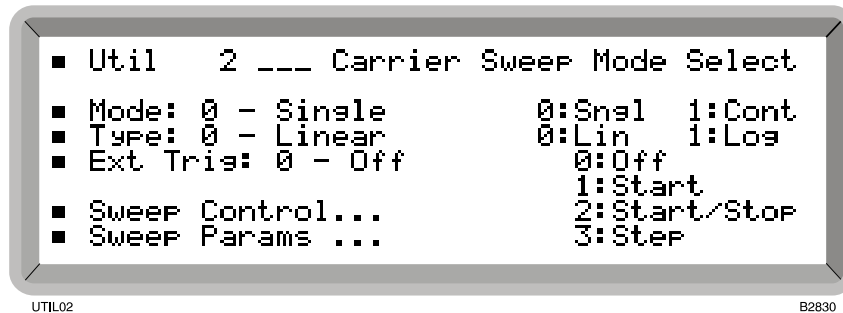

Fig. 4-13 Carrier sweep mode select menu
- (1) Select the *Util 2: Carrier Sweep Mode Select* menu. This shows the currently selected sweep mode (See Fig. 4-13).